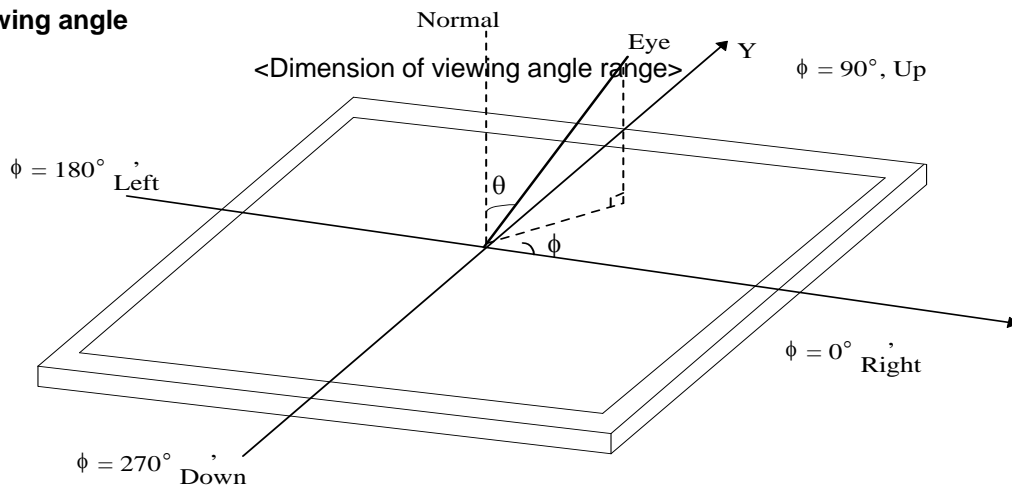

**FIG. 3 Response Time**
4. Response time is the time required for the display to transition from white to black (rise time,  $Tr_R$ ) and from black to white(Decay Time,  $Tr_D$ ). For additional information see FIG 3.